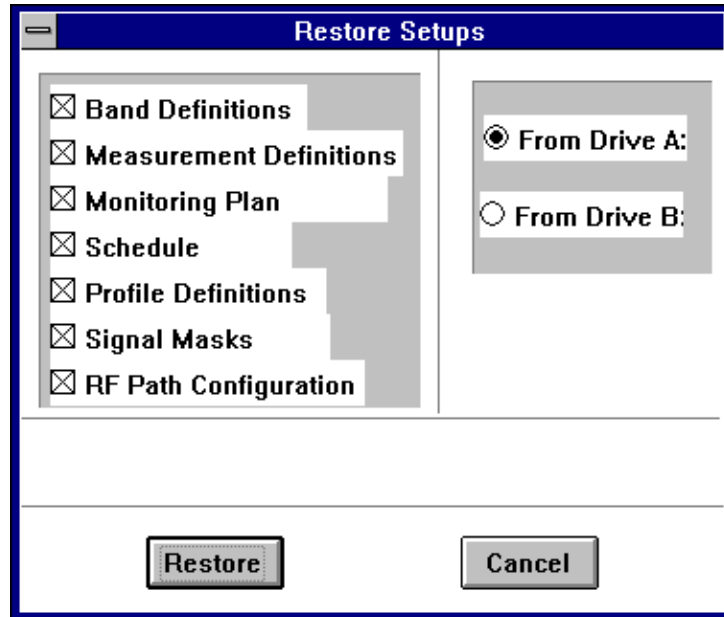

Figure 10-3: The Restore Setup Dialog Box
1. Click **Setup** on the HP E4900 File Utilities Window Menu Bar and then select **Load from Floppy** from the dropdown menu to open the **Restore Setup** Dialog Box (Figure 10-3).